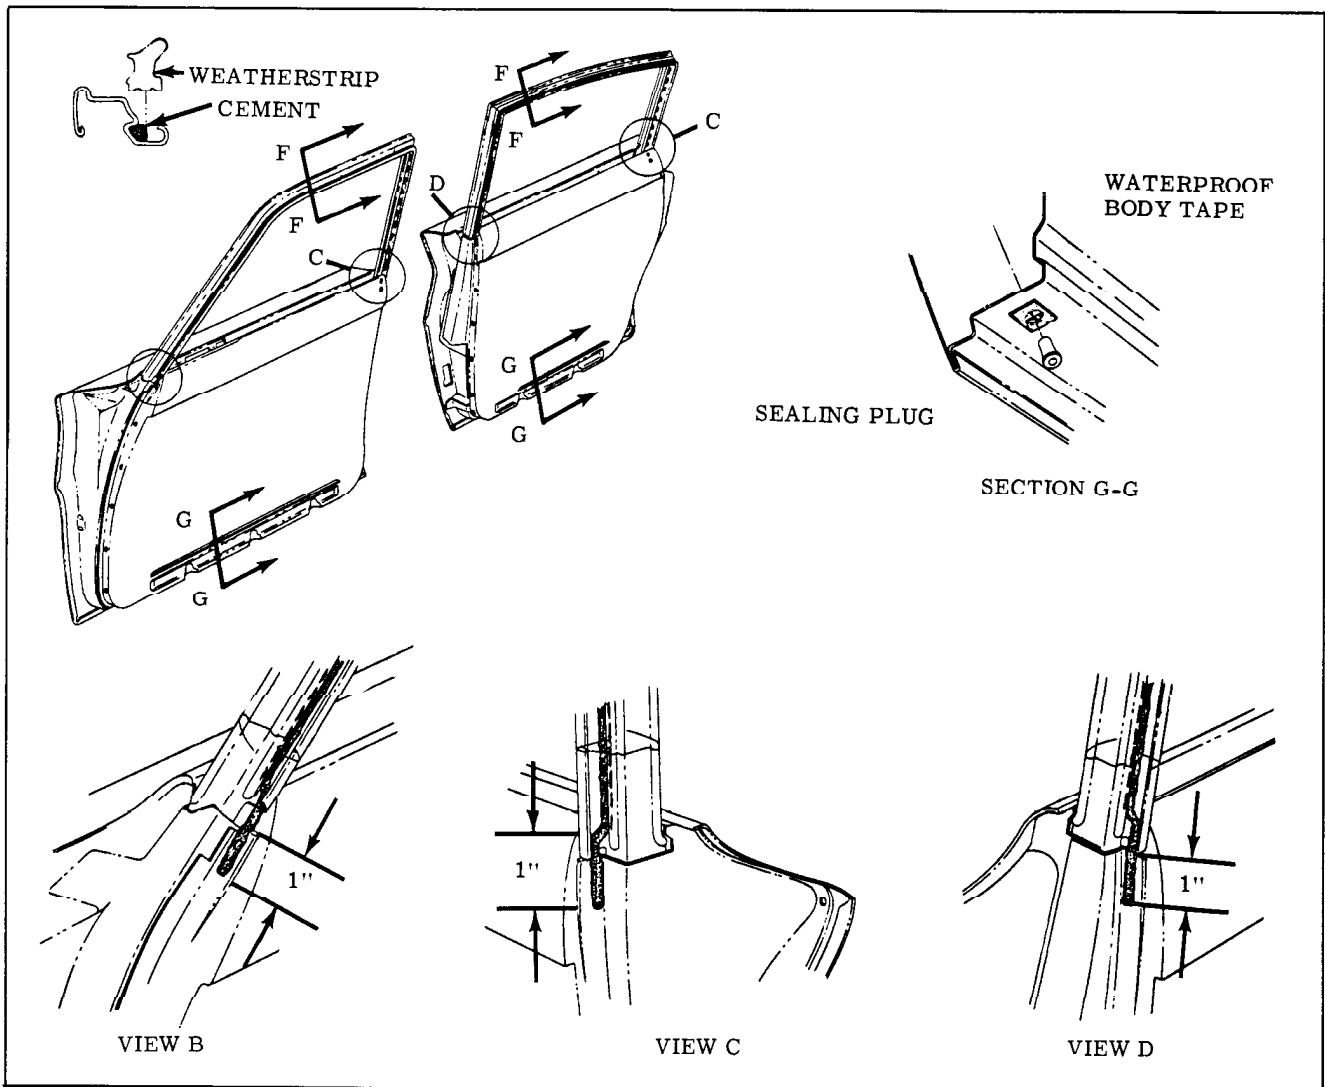

Fig. 15-22 Door Weatherstrips
3. Check all attaching hole sealing plugs. If sealing plugs are loose and will not remain engaged in door inner panel, install a 1/2" x 1" piece of clothbacked waterproof body tape over sealing plug retaining hole as shown in Section "G-G" of Fig. 15-22. Make two 5/16" slits in tape to form an "X". Install plug